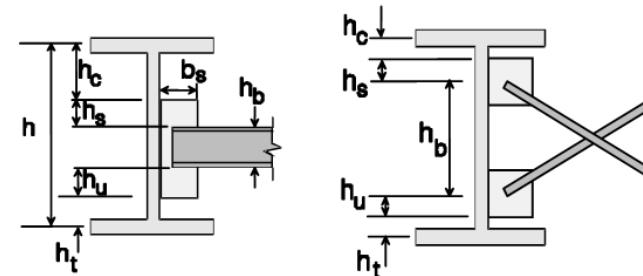

Figure 11 Cross frame and Diaphragm Geometry
- Evaluate β_{sec} for each region of girder height using FHWA SDBH Figure 11 equation